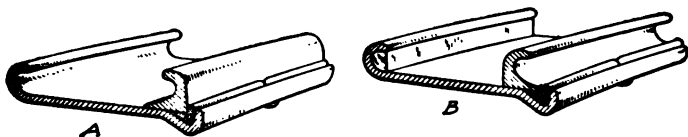

Fig. 70. Universal *Q. D.* Rim No. 2 Arranged for Clincher and Dunlop Tires
Q. D. Number 2. Figs. 70 and 71 show the standard *Q. D.* rim, now known as No. 2. This was adopted by the Association of Licensed Automobile Manufacturers as a standard and given the above name. It has the feature of accommodating all regular clincher or Dunlop tires. In Fig. 70 it is shown at *A* ready for a clincher tire and at *B* ready for a Dunlop tire, a solid rubber filling piece being used to fill up the deep groove in the clincher rim shape on the inside, while
The two parts of Fig. 71 show sections of tires in place, making clear the exact use of this reversible flange. *A* shows a regular clincher tire in place, while *B* reveals the reversed flange in place with a Dunlop tire. Both Fig. 70 and Fig. 71 show the construction of the device, the outer dropped portion of the rim having a hole through it. The locking ring is split vertically and one end, just at the split, carries a projection or dowel pin extending downward. To put the rim on, this dowel pin must be fitted into the hole in the rim to give